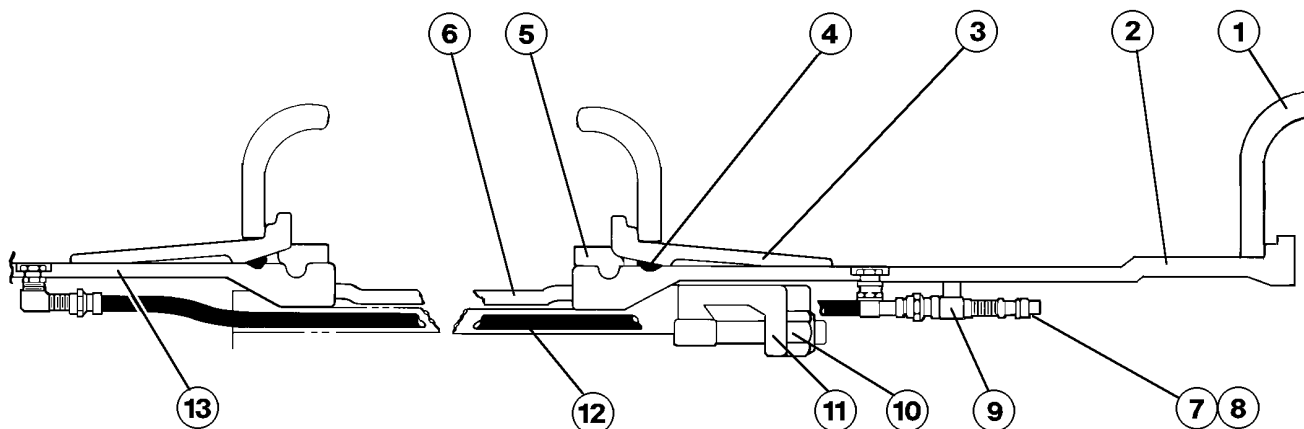

FIGURE 2-4. REAR WHEEL ASSEMBLY
4. Using a tire handler (or hoist and sling if body has been removed as shown in Figure 2-4) to grasp outer wheel assembly. Remove wheel nuts (10, Figure 2-4) and wedges (11) securing outer wheel to the wheel motor hub.
5. Attach fork truck or lifting device to suspension and mount suspension to the truck frame making sure shear bar (5, Figure 2-4) is in place. Install fourteen capscrews (1, 6, 8) with hardened washers and nuts. *Four bottom holes tapped into suspension housing require capscrews (6) with hardened washers, and spacers (9) only.*